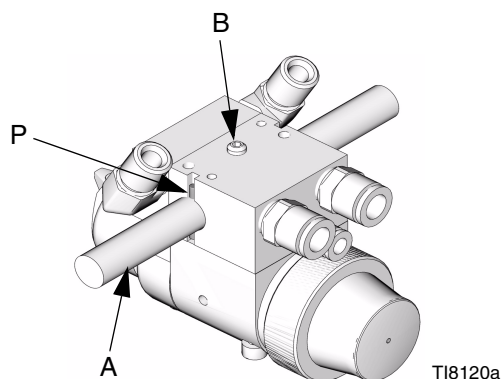

FIG. 3: Reciprocating Arm Mount
1. Insert the mounting bar (A) through the hole in the manifold as shown in FIG. 3.